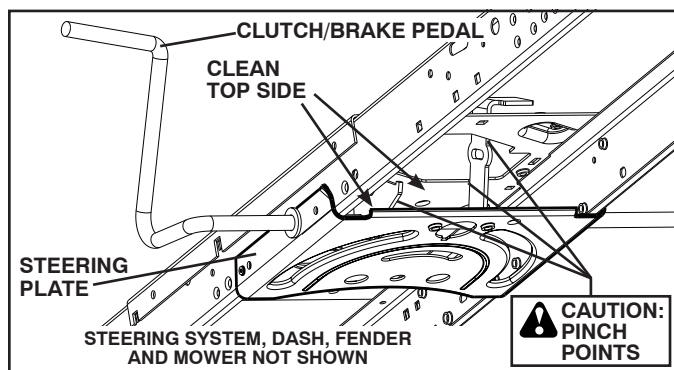

Fig. 19
**CAUTION: Avoid all pinch points and movable parts (See Fig. 19)**